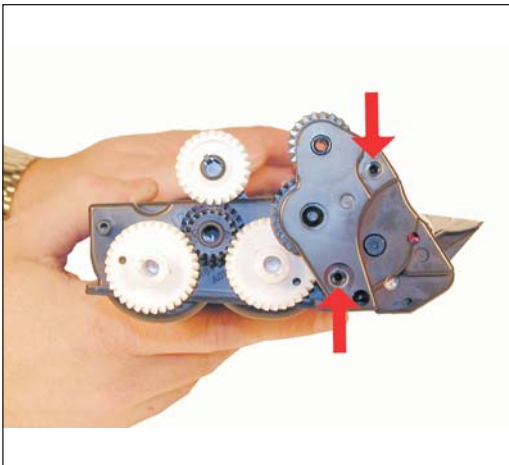

Figure 87
55) Install the drive gear end cap. See Figure 87